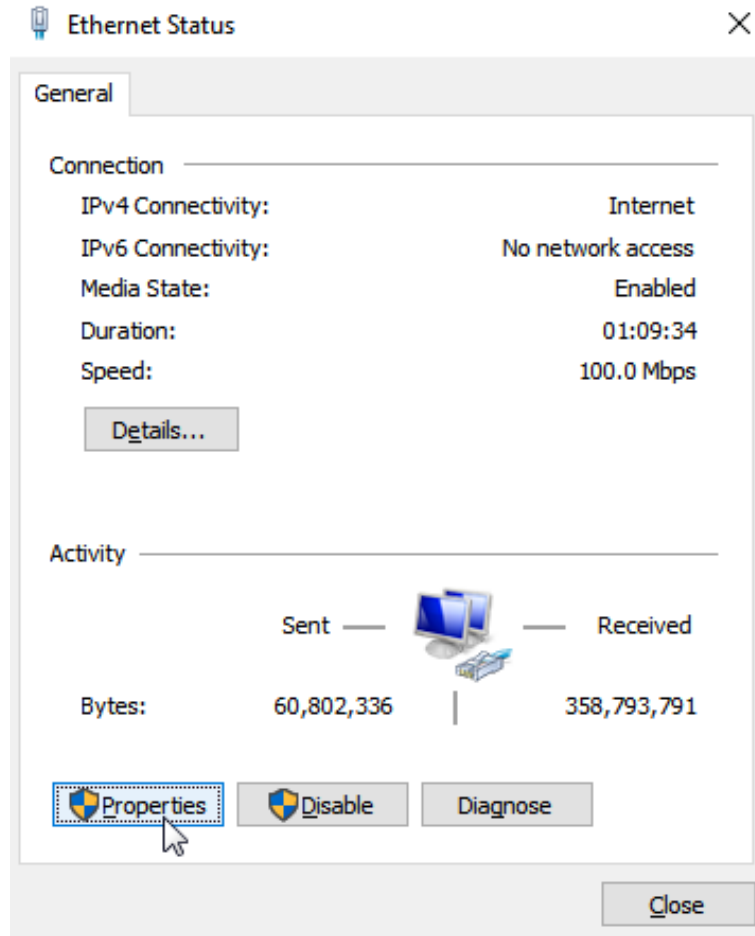

Figure A.5: Changing ethernet properties
Step 5 Click on the "Properties" button (Figure A.5).